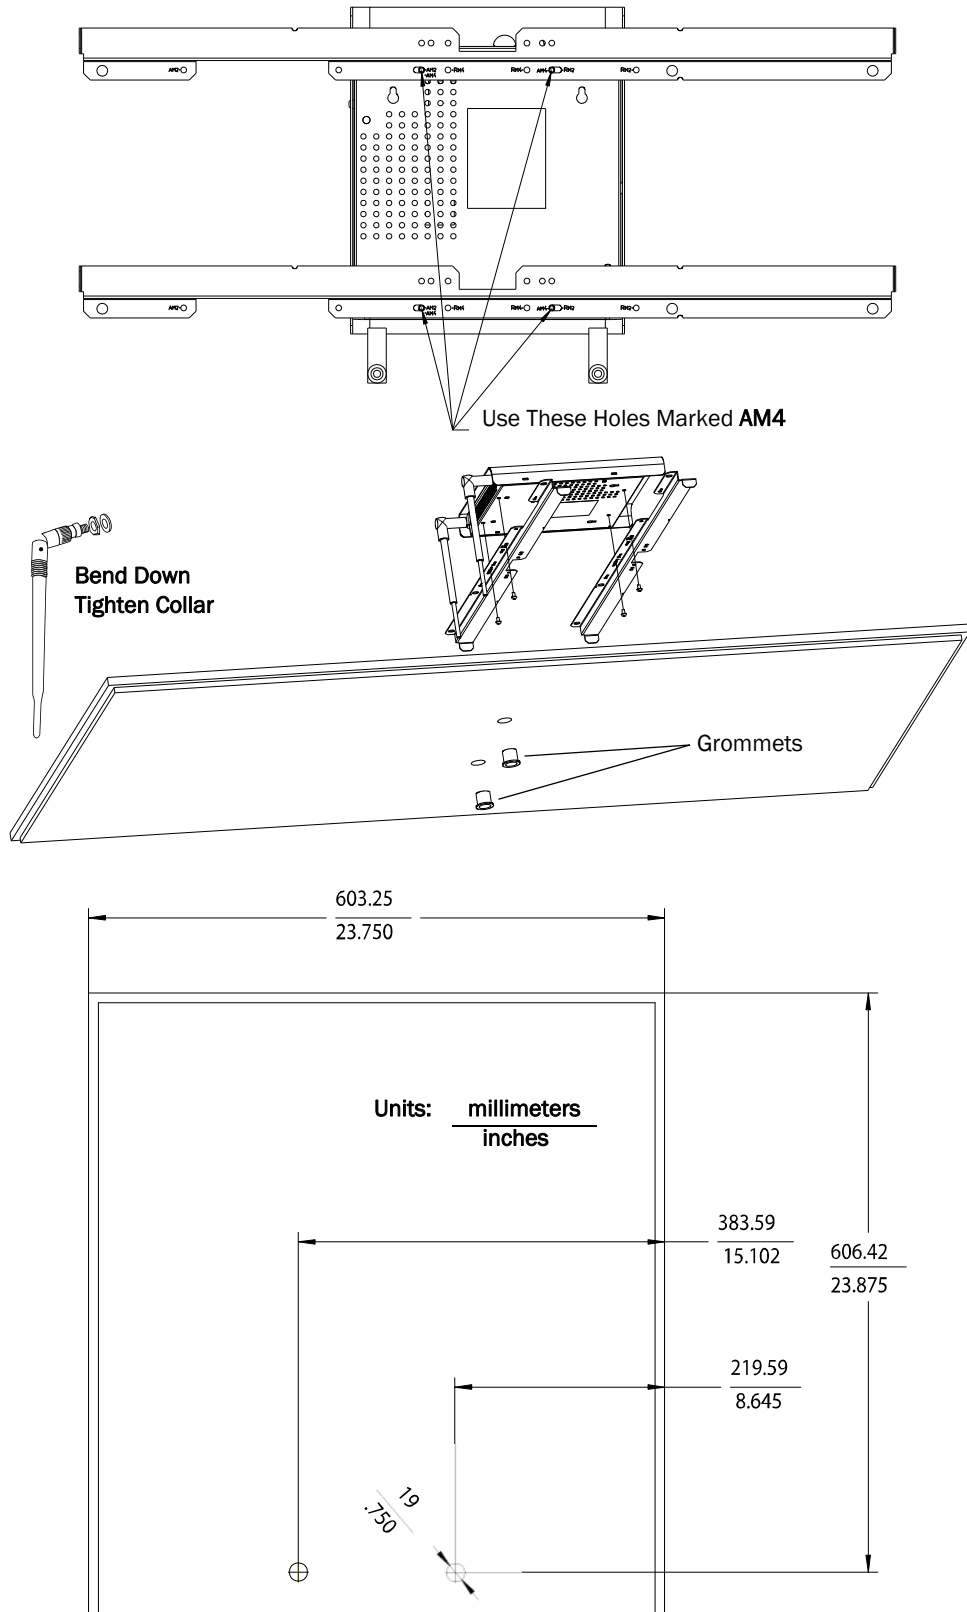

Figure 2-9: Alternative Above the Ceiling Core AP Mounting Position
The Core AP chassis can be rotated 90 degrees to the mounting rails. Choose the best placement of the Core AP to facilitate where the antennas will go through the ceiling tile. Note that there are additional holes in the mounting rails to allow for tethering to other permanent structures where local building codes require this type of installation. Refer to Figure 2-8 or Figure 2-9 for the dimensions used to locate the antenna holes in the tile.
6. Secure the mounting rails to the AP. Insert the four (4) M3 x 0.5 (8 mm LG) screws into the Core AP mounting rail holes, and into the mating holes in the back of the Core AP as shown in Figure 2-8 or Figure 2-9. Torque-tighten each shoulder screw to 8-inch lbs.